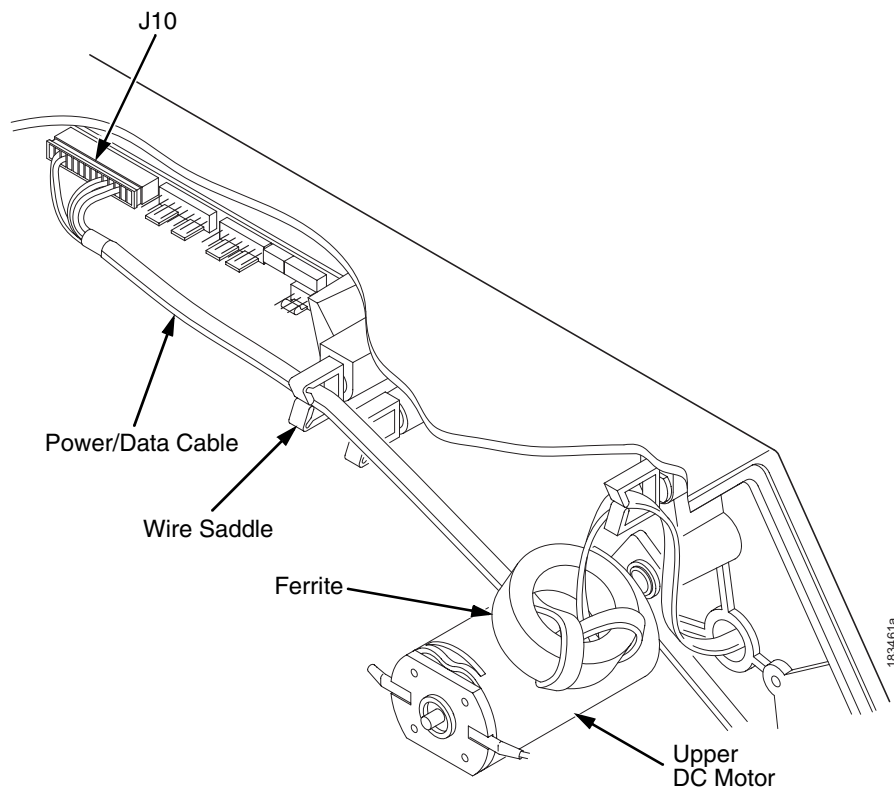

Figure 9. Position the Ferrite
15. On the electronics side of the printer, position the ferrite on top of the upper DC motor. (Figure 9.)
16. Route the power/data cable through the wire saddle as shown in Figure 9.